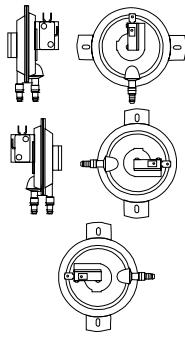

Fig. 2 Air Sampling Connections
Air Sampling Connection (Figure 2)
Refer to Figure 2 to identify the **High inlet (H)** and the **Low inlet (L)**. Connect the sample lines to the same port or ports as the switch being replaced.